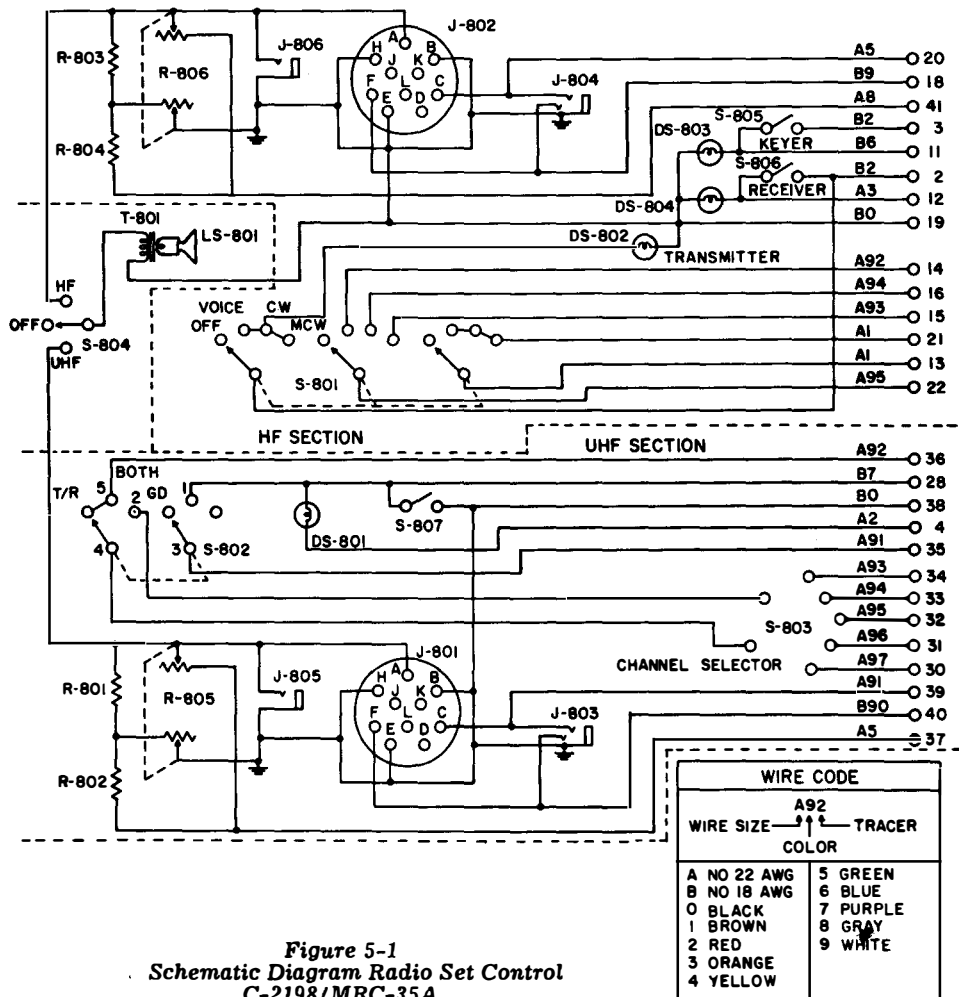
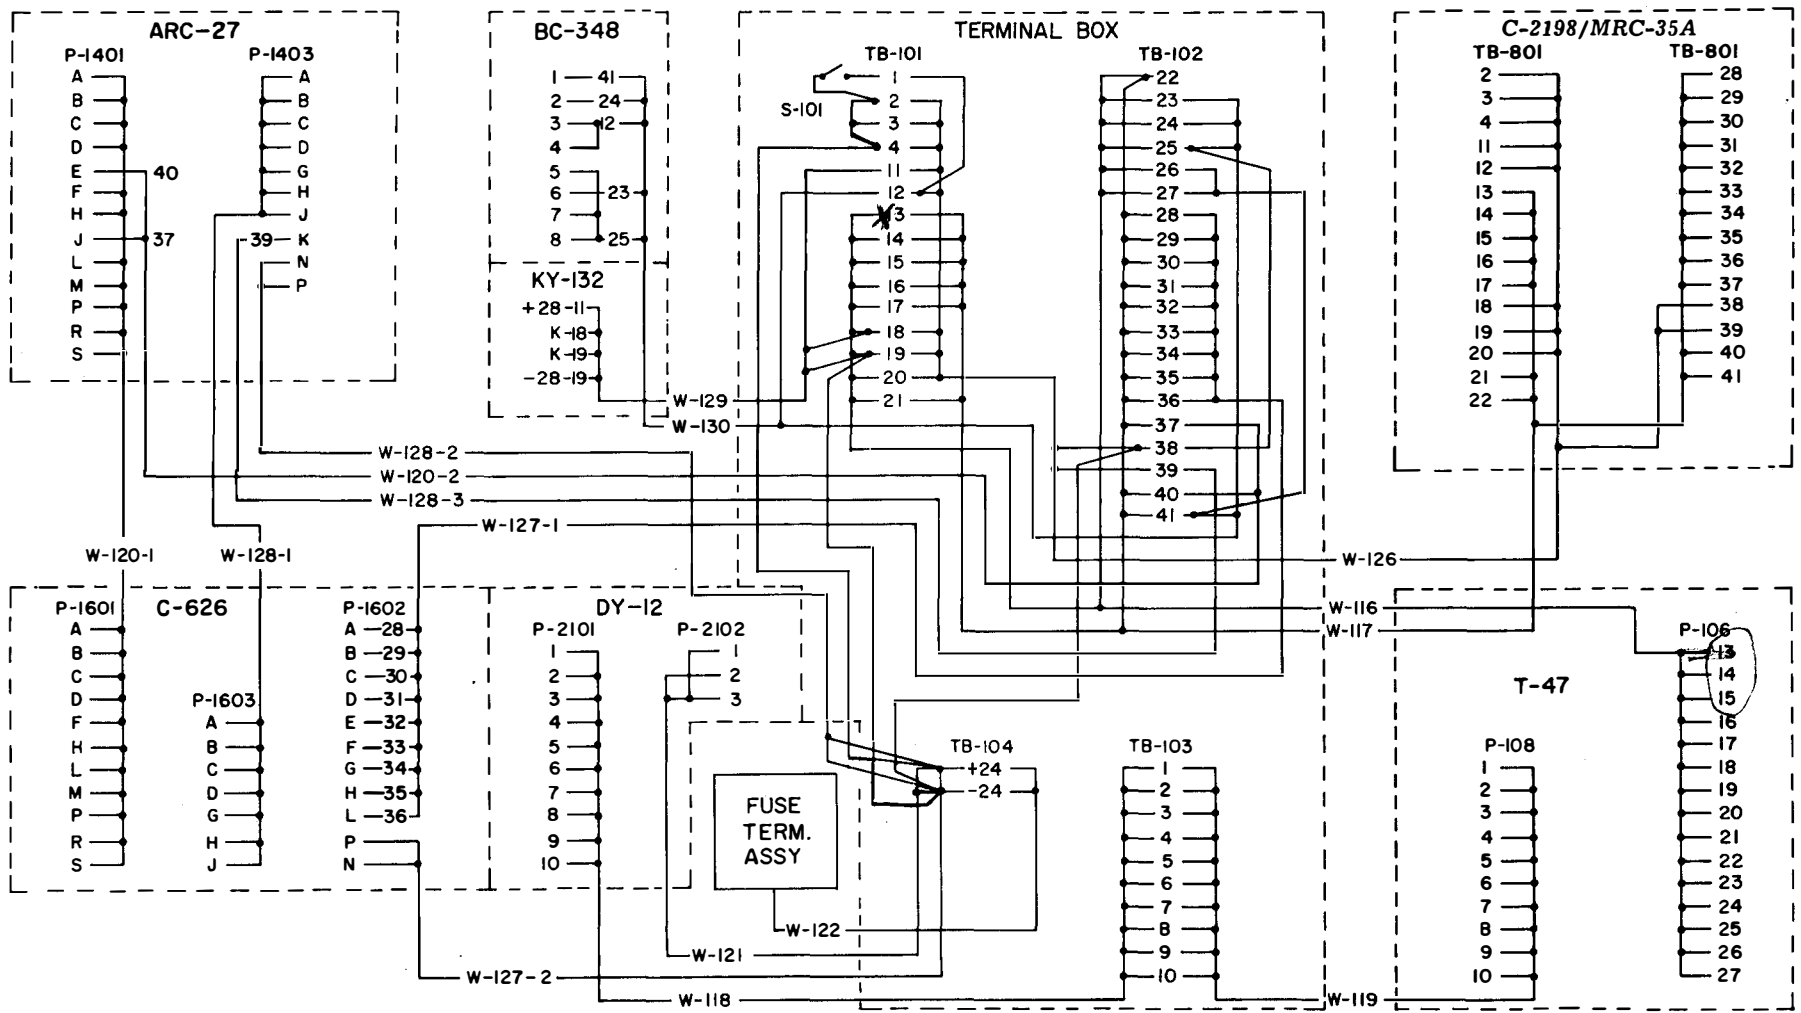
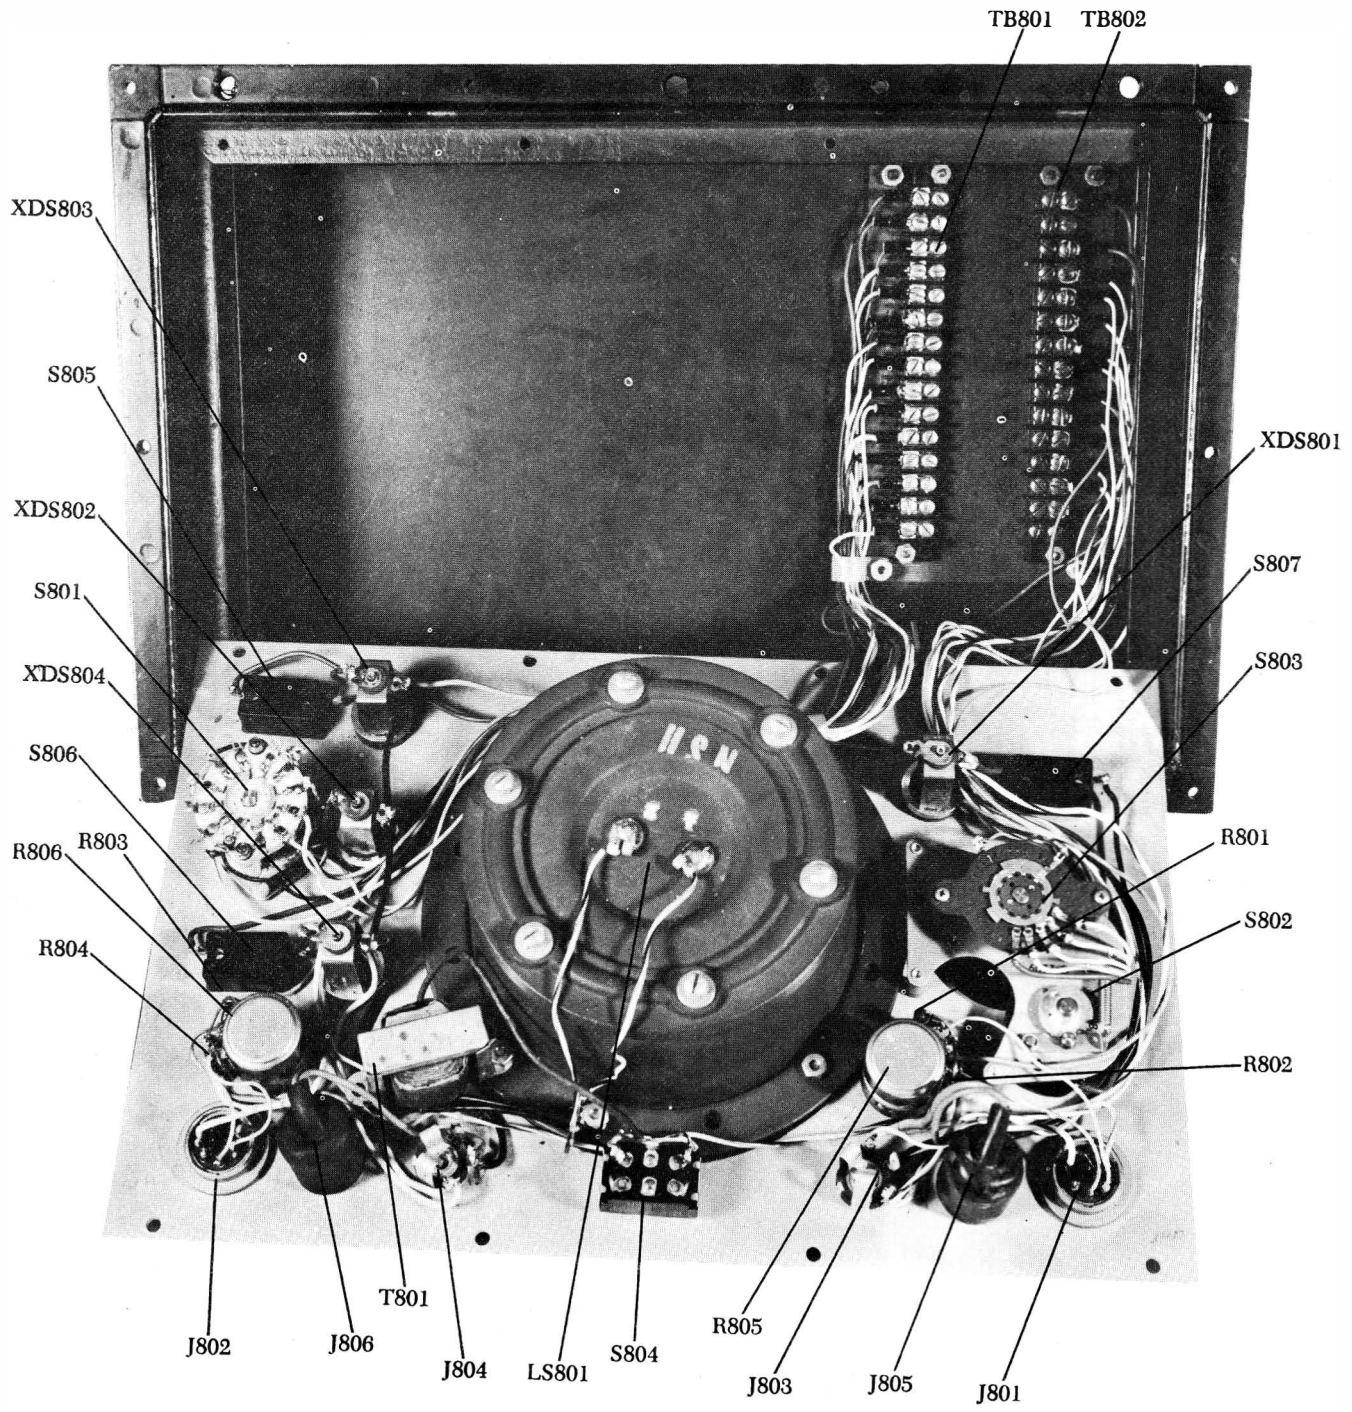

Figure 5-1
Figure 5-2. Radio Set Central AN/MRC-35A, Interconnecting Diagram
Figure 5-3. Location of Parts, Radio Set Control
a. HIGH FREQUENCY RECEIVER SECTION.—This portion of the radio set control has a standard Audio Receptacle J-802 which can receive the plug of Handset H-33E/PT or Local Control C-434/GRC and an Audio Jack J-806 (see figure 5-1) which can receive the plug of the Headset Extension Cord. The volume control consists of attenuators which are so arranged that the input and output impedance will be 300 ohms at all times. Power to the Radio Receiver BC-348(\*) is controlled by switch S-806. In an emergency, S-806 may be bypassed by closing the switch in the Terminal Box located in the Cabinet CY-2017/MRC-35A. (See figure 5-2.)
the operator to turn the power to the Radio Transmitter T-47/ART-13 on and off and also control the type of emission. (See figure 5-1.) Microphone Jack J-804 may be used with the Microphone T-17E or Audio Receptacle J-802 may be used with H-33E/PT.
c. ULTRA HIGH FREQUENCY CONTROL SECTION.—Switch S-803 (see figure 5-1) permits remote selection of one of 18 preset channels. Switch S-807 controls power to the set. S-802 and S-803 permit selection of any of 18 preset channels and/or guard channel.
d. ULTRA HIGH FREQUENCY AUDIO SECTION.—(See figure 5-1.) Microphone Jack J-803 and Headphone Jack J-805 or Audio Receptacle J-801 may be used with appropriate accessories or Local Control C-434/GRC. The volume control consists of attenuators which are so arranged that the input and output impedance will be 300 ohms at all times.
Trouble shooting procedures for the major individual component units of the Radio Set Central AN/MRC-35A are shown in the technical manuals listed in Table 1-1. The Radio Set Control C-2198/MRC-35A does not have a separate technical manual. This instruction book contains all information on the radio set control necessary for its maintenance and operation. (See figure 5-1.)
a. SYSTEM TROUBLE SHOOTING.—Figure 5-2 is an interconnecting diagram of the overall cabling of the AN/MRC-35A. This will assist in trouble shooting of the overall system.
b. RADIO SET CONTROL C-2198/MRC-35A.—Faulty operation of the control may be caused by circuit difficulties which in turn may be detected by a resistance check of the unit. Table 5-1 gives normal resistance readings for the control. Figure 5-3 shows location of parts. Figure 5-1 is the schematic diagram of the control.
(1) Control Settings.—Turn all switches to the OFF position. Turn all controls CCW. Turn RT-178/ARC-27 to GUARD. Place microphone in jacks J804 and J803. Place handsets in jacks J802 and J801. Place headsets in jacks J806 and J805.